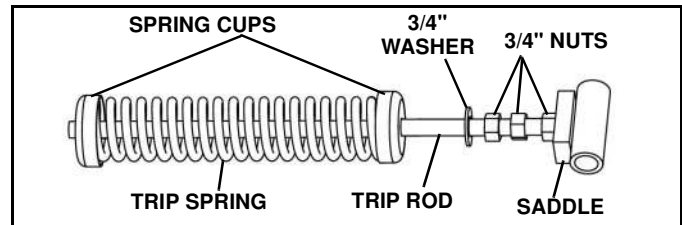

Figure 2-6
1. Install three 3/4" nuts onto the long threaded end of the spring trip rod (See Figure 2-6)